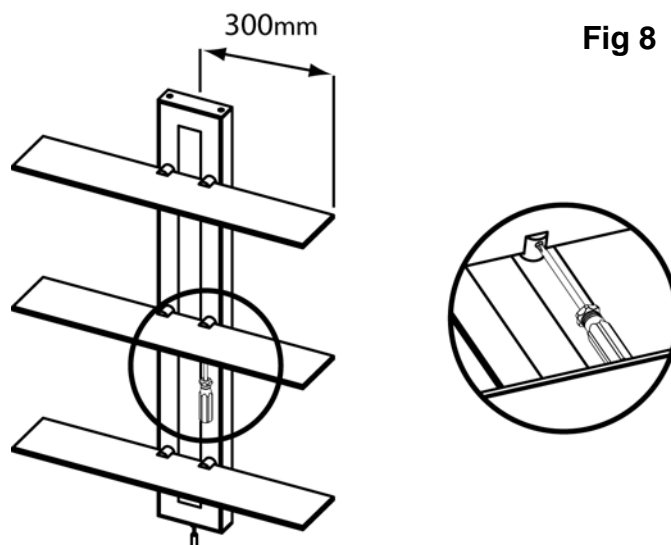

Fig 8
7. Once shelving unit is secure to the wall the glass shelves can be attached. Place top shelf in shelf support brackets and tighten screws (see Fig 8). While one person supports the glass shelf the other should loosen the screws on the shelf support brackets and use a tape measure to measure in 300mm from the edge of the glass shelf to position the shelf centrally and re-tighten screws ensuring that the glass shelf is located fully within the shelf support bracket. Repeat steps for remaining two glass shelves.